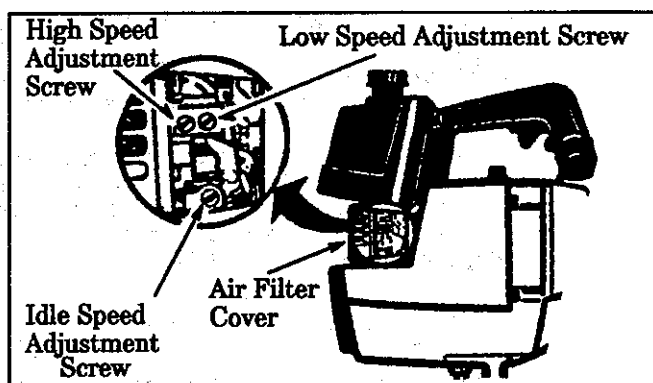

Figure 30
- a. Turn the Low speed Mixture Screw and the High speed Mixture Screw (Figure 30) clockwise until they stop. Do not turn the screws until they are tight as damage to the needle seats can occur.
2. Adjust Idle Speed Screw (Figure 30) until the engine continues to run without stalling and without the blade or trimmer head moving.
- b. If the engine does not accelerate smoothly, turn the Low speed mixture Screw (Figure 30) counterclockwise a small amount (no more than the width of the slot in the adjusting screw).
2. Turn the Low speed Mixture Screw (Figure 30) slowly clockwise until the speed starts to drop. Note this position.
3. Turn High Speed Mixture Screw (Figure 30) very slowly clockwise until engine speed is reduced.